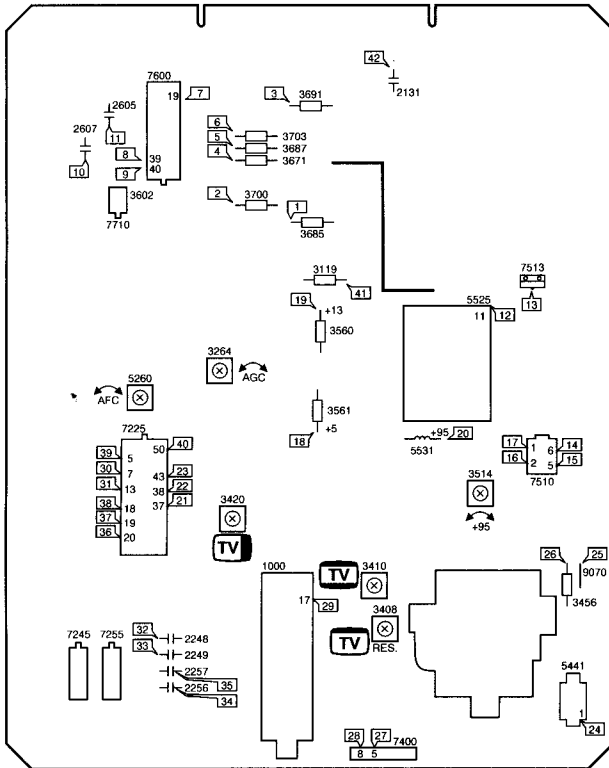

Fig. 7.1
1. Settings on the carrier panel (Fig. 7.1)